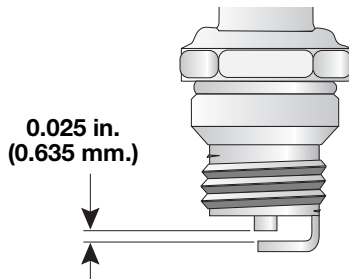

Fig. 73
3. Replace cracked, fouled or dirty spark plug. Set the air gap at 0.025 in. (0.635 mm.) using a feeler gauge (Fig. 73).